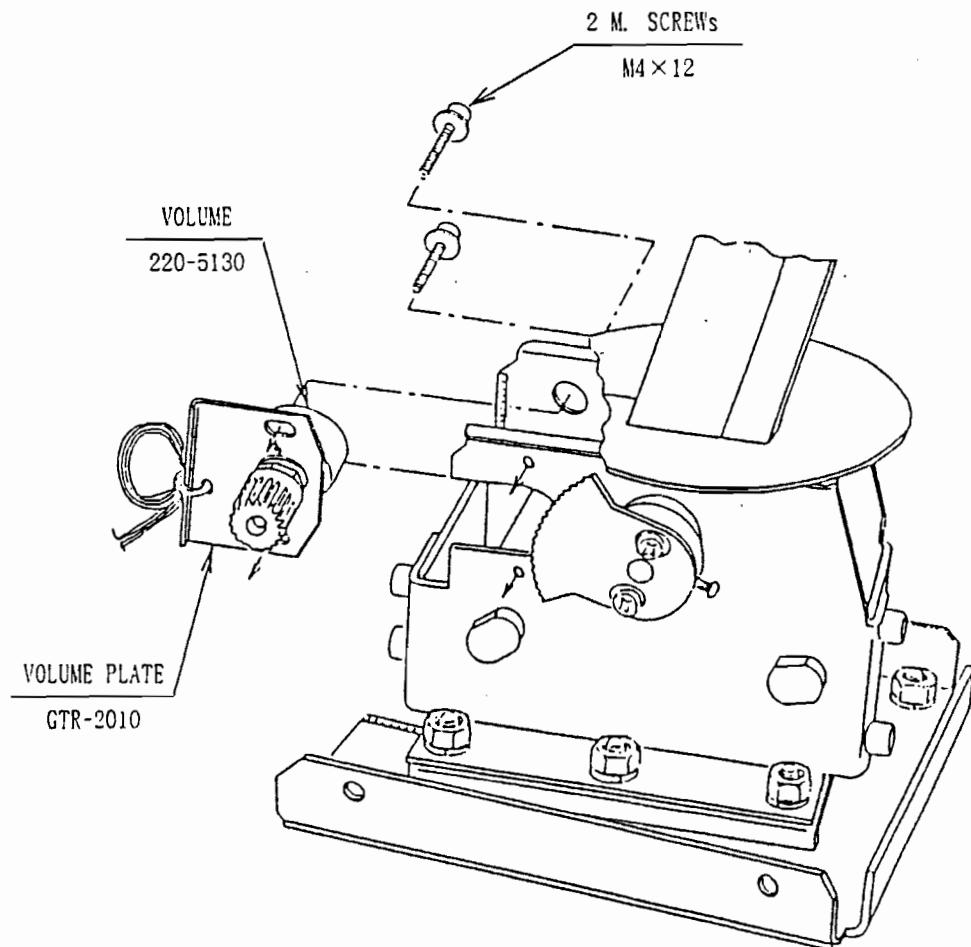

FIG. 6
- ① Take off the 2 machine screws ( $M4 \times 12$ ) and remove the VOLUME together with the VOLUME PLATE (see FIG. 6).